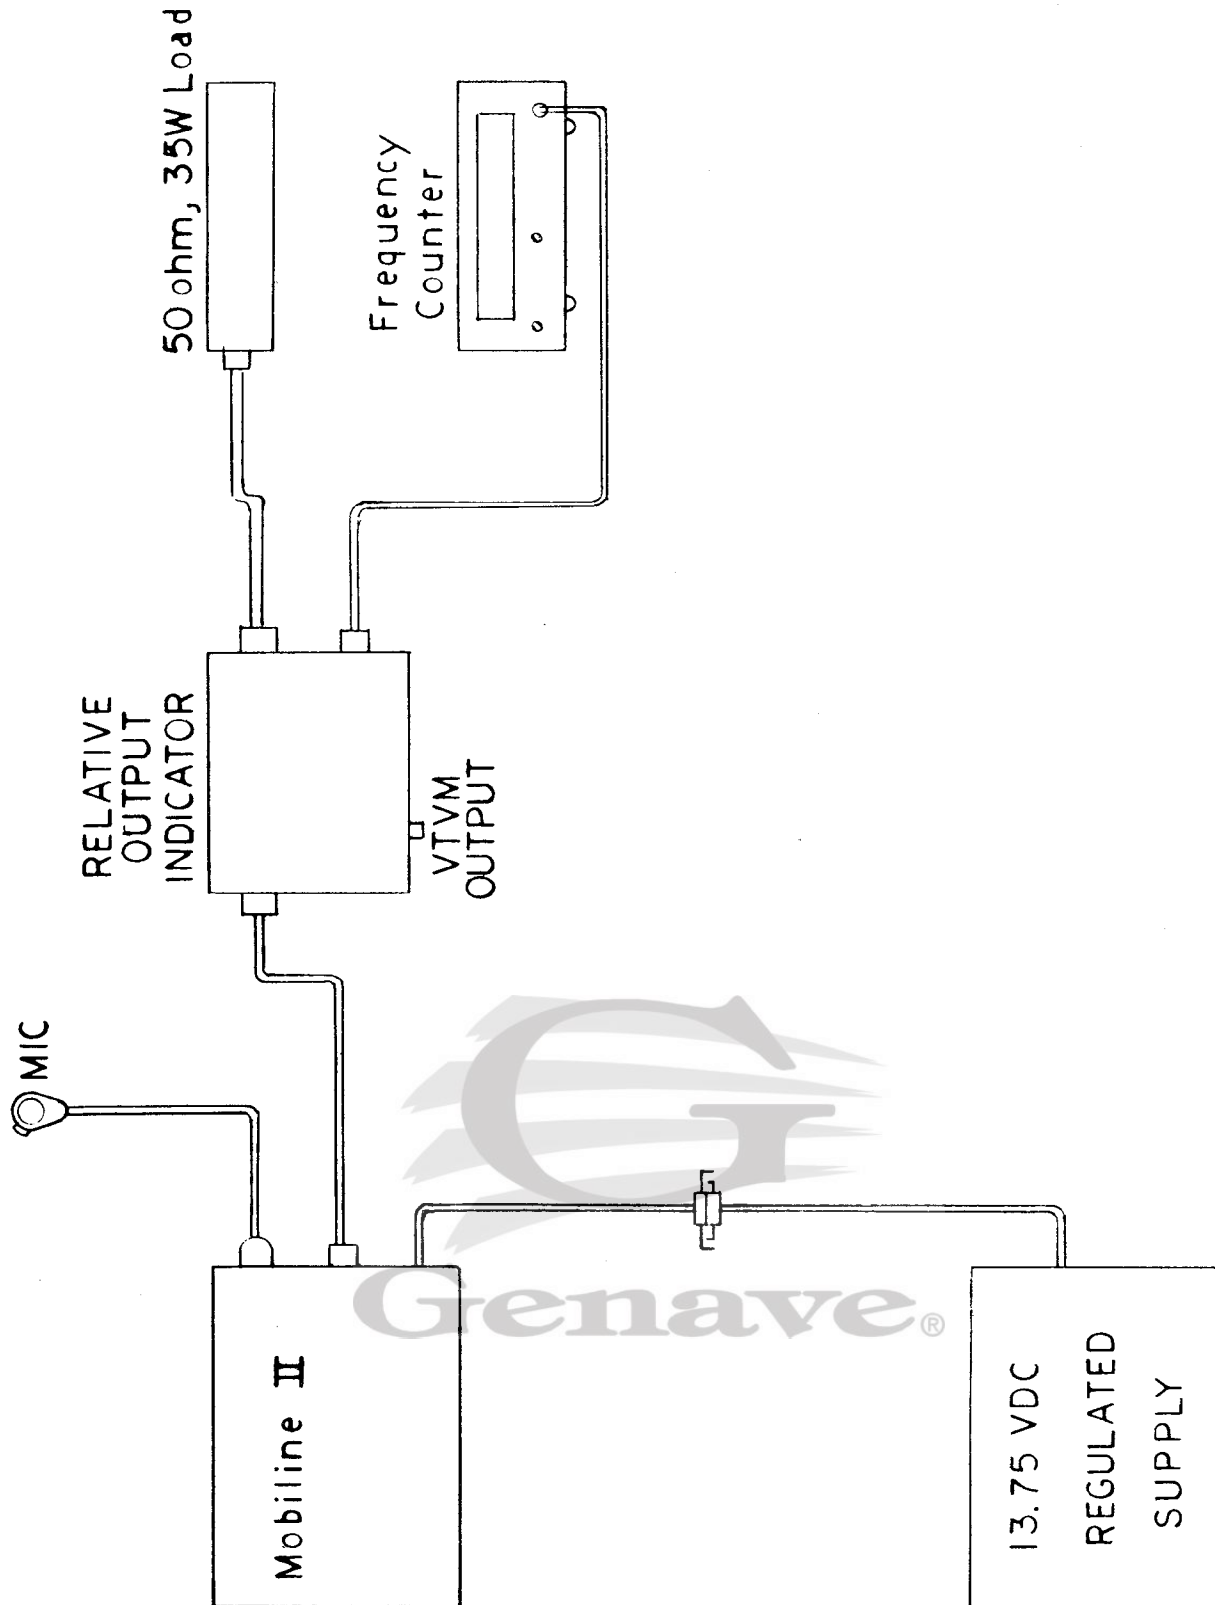

Figure 4-4-6
9. Connect the unit to the frequency measurement setup of Figure 4-4-6.